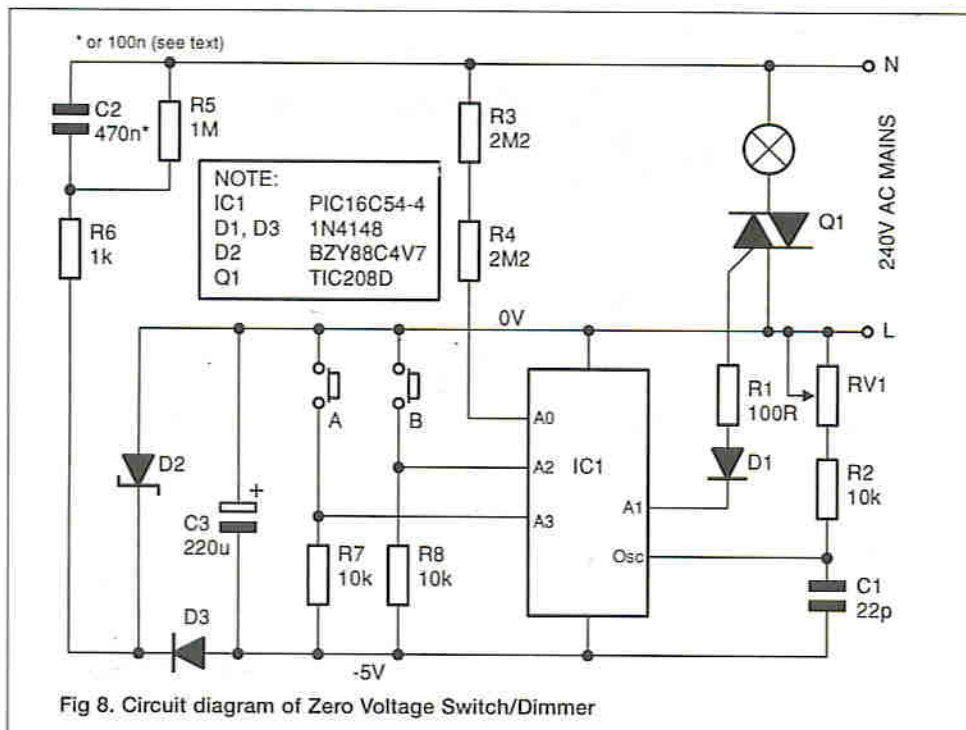
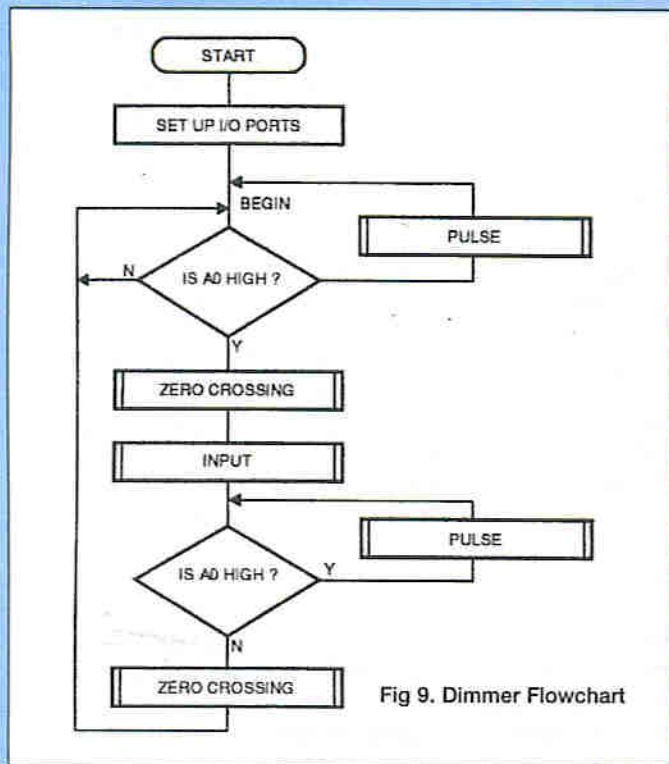

Fig 8. Circuit diagram of Zero Voltage Switch/Dimmer
Fig 9. Dimmer Flowchart
The above method of implementing a zero crossing detector is fine but uses up one line of an I/O port which may be required for other purposes. This can be avoided by connecting the mains signal to the RTCC input instead. In this case, the RTCC register would first be loaded with 0FFh (255 in decimal) and the OPTION register set up to increment the RTCC register on the positive transition of the signal on the RTCC pin so that the counter would 'overflow' to zero at the beginning of each positive half-cycle. The programme would then need to continuously test the RTCC register for zero by testing the zero bit (2) of the status register (movf RTCC,1 followed by btfss STATUS,2) instead of an input high and the first instructions in the zero crossing subroutine would reload the RTCC register with 0FFh before switching the triac or not as required. Figure 7 shows a listing for a static zero voltage switch for the circuit shown in Fig. 8. Here, the triac is triggered from output port A1 while the mains is applied to the input A0 via a resistor. Port B0 has been configured as an output and generates a pulse each time the zero crossing routine is executed. This can be displayed on an oscilloscope for reference if required. (Note that the circuit is connected to the mains and must not be earthed even via the 'scope probe.) This output is not required for the operation of the circuit and after testing, the instructions which perform this function (bsf PORTB,0 and bcf PORTB,0 in the ZRX subroutine) can be removed leaving the whole of port B free to perform any other functions which you may need in your application. Ports A3 and A4 are ON and OFF inputs respectively and operate when switches S1 or S2 are pressed.
Figure 9 shows the flowchart for a dimmer programme which can be realised by plugging a suitably programmed chip into the circuit of Fig. 8. In this case, operating switch A2 will cause the brightness to increase while A3 will cause it to decrease rather than causing the light to switch on or off. Because of the smaller supply current requirements due to pulse triggering, C1 may be reduced to 0.1uF/250V a.c. Suitable suppressor components comprising a choke in series with the triac and a capacitor should also be fitted to this circuit if it is to be built as a permanent assembly.